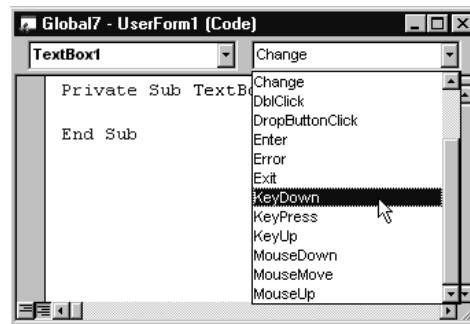

Figure 1.8 Drop-down list of procedures (events) available for the TextBox class of object
2. Select KeyDown from the Procedure list, as shown in Figure 1.8.